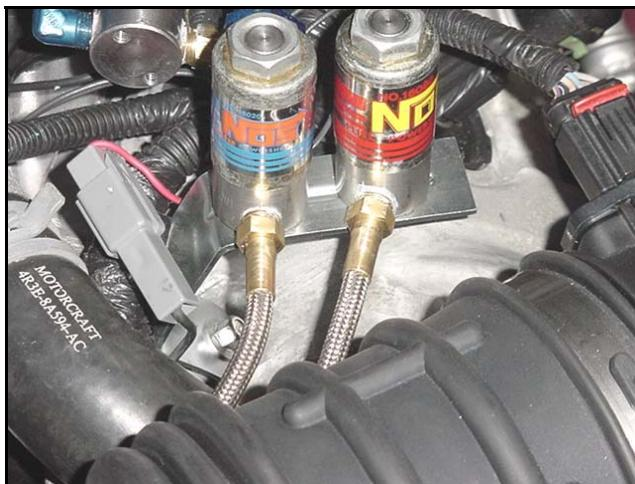

Figure 6
1. Clamp the nitrous solenoid (6) in a bench vise.
2. Thread the 1/8" NPT x 4AN nitrous filter fitting (10) into the inlet port of the nitrous solenoid. Use Teflon paste to avoid leaks.
3. Thread the 1/8 NPT male end of the blue 2 ft. 3AN hose (17) into the outlet port of the nitrous solenoid. Remove from the vise.
4. Clamp the fuel solenoid (7) in a bench vise.
5. Thread the 1/8" NPT x 4AN Fuel Filter Fitting (11) into the inlet port of the fuel solenoid. Remove from the vise.
6. Thread the 1/8 NPT male end of the red 2 ft. 3AN hose (18) into the outlet port of the fuel solenoid. Use Teflon paste to avoid leaks.
7. Attach the nitrous solenoid to the solenoid mounting bracket (24). Attach the fuel solenoid to the solenoid mounting bracket (24). **See Figure 6.**
8. Mount the solenoid assembly to the driver's side foremost valve cover bolt. **See Figure 6.** Ensure that the assembly and lines do not interfere with engine accessories or body parts, and that hoses reach the Soft Plume nozzle inlet ports without being stretched or kinked.